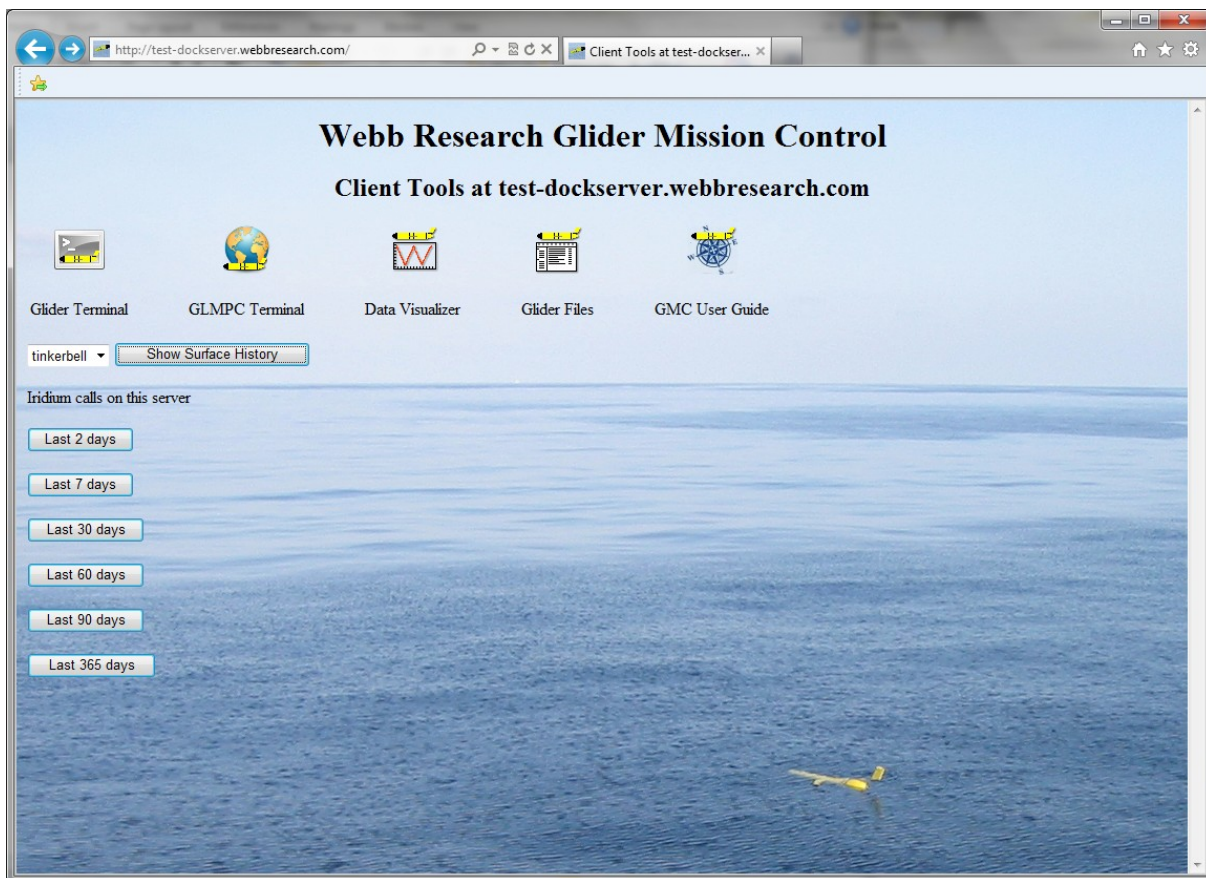

Figure 3-1. Dock Server Client Tools Web Page.
This upgrade behavior can be confusing to users. It can result in launching an old client tool release even though a new release is on the Dock Server machine. Thus, it is important to check that the release displayed in the client tool’s title bar is the one you expect. If it is not the new release, let the old release run for five or more minutes, shut it down, and then restart it. The five minute wait should give Web Start enough time to find an upgrade if there is one. Thus, upon restarting the client tool, a dialog similar to figure 3-1 should appear to indicate that the upgrade is in-progress. Note that the upgrade can take several minutes to complete.
1. Open a web browser and browse to the URL `dock.webb.com` where your Dock Server's fully qualified domain name would replace `dock.webb.com`. Figure 3-1 shows the Dock Server's client tools web page.